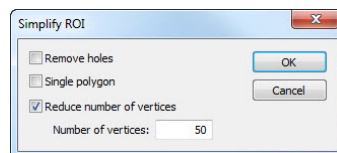

Figure 221 – Simplify ROI dialog
2. Push the **Simplify...** button. The **Simplify ROI** dialog is then displayed (see Figure 221).